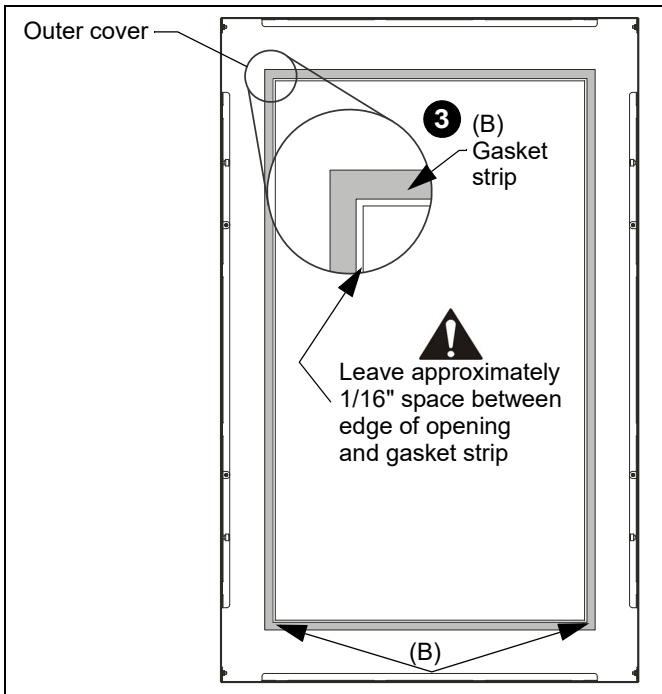

Figure 8
- Clean the inside edge of the outer cover (approximately one inch depth around entire opening) with an alcohol wipe or something similar, and let dry. (See Figure 8)
- Install gasket strip (B) around inside edge of outer cover opening. (See Figure 8)